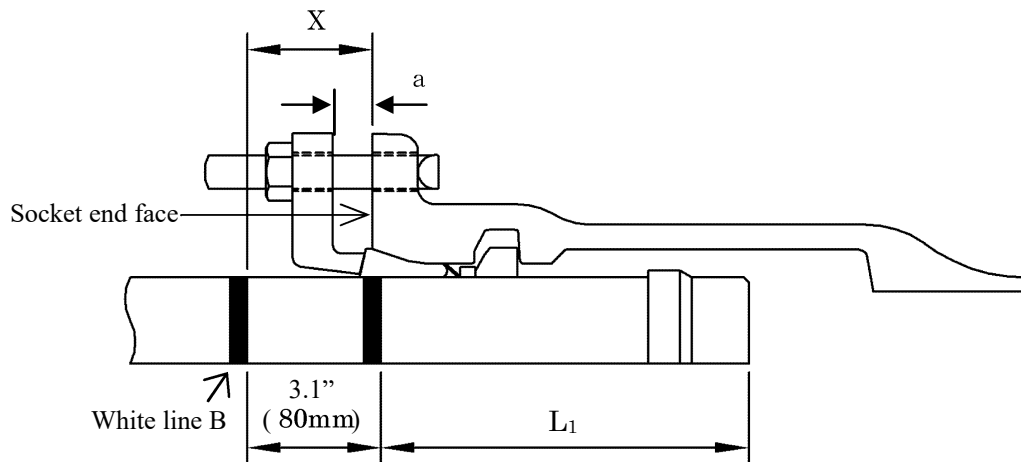

Figure-22 Measurement of clearance between bell end and gland, and clearance between socket end face and white line B
- 1) As illustrated in Figure-22, measure the clearance between the gland and the bell end at four locations, and ensure that the clearance difference value does not exceed 0.2" (5 mm).